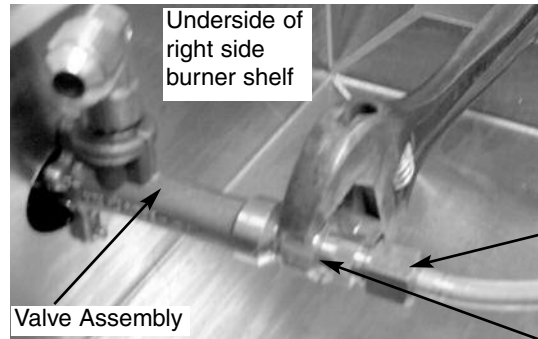

Fig 30
3. Loosen the aluminum line going from the side burner valve to the side burner, using an adjustable wrench. (See Fig. 30)